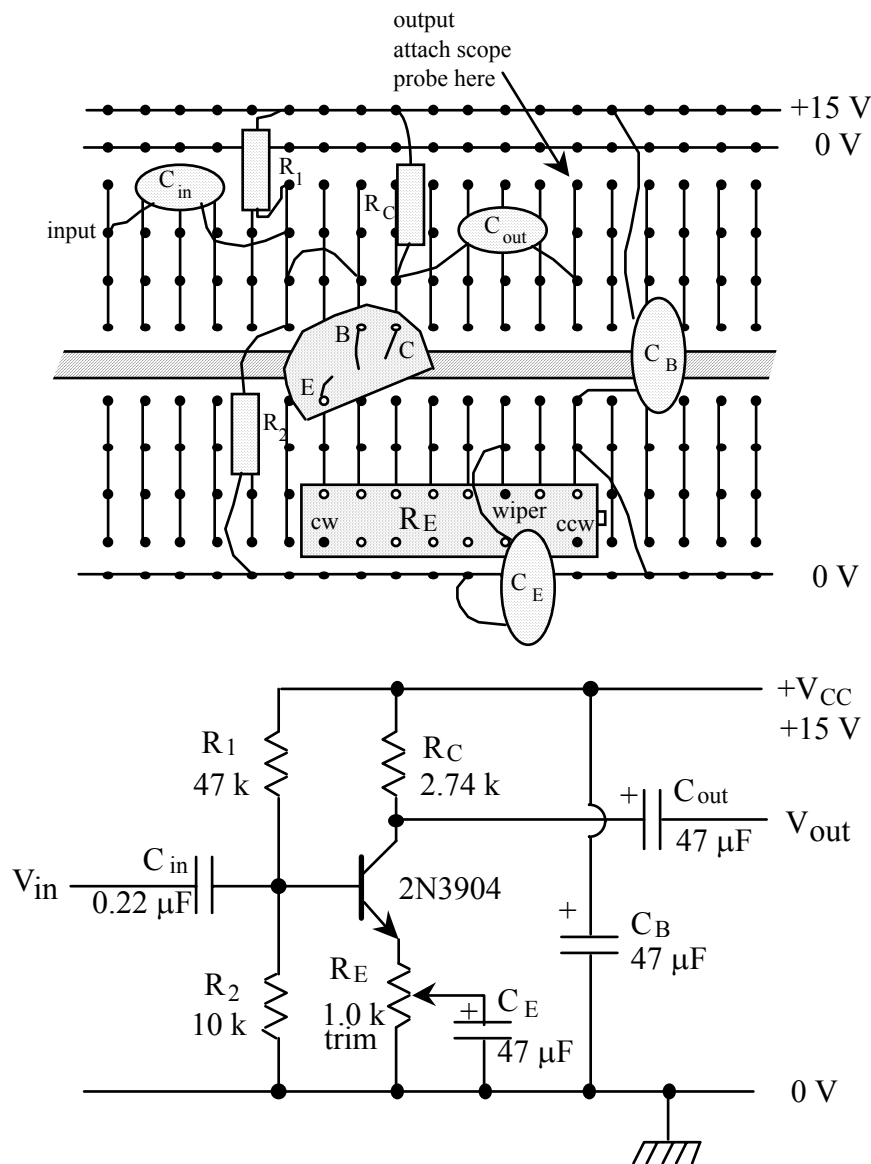

Figure 7.4 Common Emitter Stage Layout and Schematic
If we are interested in the ac gain, then we can replace R_C and R_E with the ac impedances attached to the collector and emitter, which may be different from the dc resistances. In our circuit we use C_E to bypass part of the emitter resistor at the signal frequency (see Fig. 7.4 below).
1. Calculate the quiescent voltages V_B , V_E , and V_C , and the currents I_E and I_C for the common emitter circuit in Figure 7.4. How much power is dissipated in the transistor itself? Is the power safely below P_{\max} ? See 2N3904 data sheet posted on our web site.
2. Find the ac voltage gain of the circuit in Figure 7.4 for 10 kHz sine waves with the emitter bypass capacitor C_E removed. Estimate the maximum amplitude of the output before clipping occurs. (The maximum output voltage is limited by the positive supply voltage, and the minimum is determined by the requirement that the collector voltage must be at least a few tenths of a volt above the emitter voltage.)
3. The emitter bypass capacitor can provide an ac ground path for the emitter, increasing the gain of the amplifier at high frequency. Considering the effects of the intrinsic emitter resistance r_e , what is the maximum possible ac voltage gain of the amplifier in Figure 7.4? Will this gain likely be realized for 10 kHz sine waves? Why or why not?
4. What setting of the emitter trimpot is needed to give the required gain of -25 ? For the single stage in Figure 7.4, what are the input and output impedances r_{in} and r_{out} at 10 kHz and a gain of -25 ? (Note that r_{in} is the impedance looking into the base in parallel with the base divider impedance.) Calculate the fraction of the original amplitude obtained when a 560Ω load is connected to the output via a coupling capacitor.
In Figure 7.4 we show the first amplifier stage and a suggested circuit board layout. The base and emitter must not be on adjacent strips or the circuit will oscillate. Your circuit will be easier to understand if you try to keep the physical layout looking like the schematic diagram.
The first step is to construct the bias network and check that the correct dc levels (quiescent voltages) are established. Assemble the common emitter stage as shown in Figure 7.4, but without the input and output coupling capacitors or the emitter capacitor (without C_{in} , C_{out} , and C_E). The wiper contact on the emitter resistor R_E should not be connected to anything yet. Measure the resistors before putting them in the circuit, and if they differ from the values used in your calculations, recalculate the quiescent voltages. Before turning on the power, disconnect the power supply from the circuit board for a moment and check that it is set to +15 V. Then turn on the power, and check the dc levels V_B (at the transistor base), V_E (at the emitter) and V_C (at the collector).